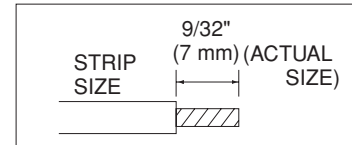

Fig. 26
- (1) Cut the wire end with a cutting pliers, then strip the insulation to expose the wire about  $9/32$ " (7 mm). See the label (Fig. 26) near the terminal plate.
- (2) Using a screwdriver, loosen the terminal screw on the terminal plate.
- (3) Insert the wire and tighten the terminal screw completely using a screwdriver.